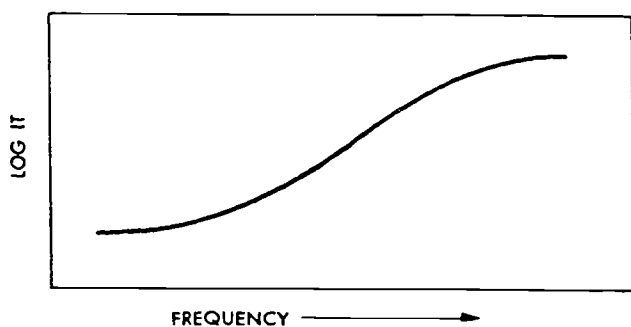

Figure 3-6. Intermittency effect as a function of flash frequency.
Later investigations into the nature of intermittent exposures disclosed that: (1) for very low flash frequency, the results are almost equal to the effect of an equal-energy exposure; (2) a long exposure broken into a large number of interruptions produces an effect equal to that of the continuous exposure; (3) increasing the frequency of the flashes causes an increase in the exposure required to equal the continuous exposure until the frequency of flashes is high enough to approach the effect of the quanta randomly hitting the halides during a continuous exposure; and (4) the effect produced by an intermittent exposure occurs between the effects produced by two continuous exposures. Figure 3-6 illustrates graphically the intermittency effect as a function of flash frequency.